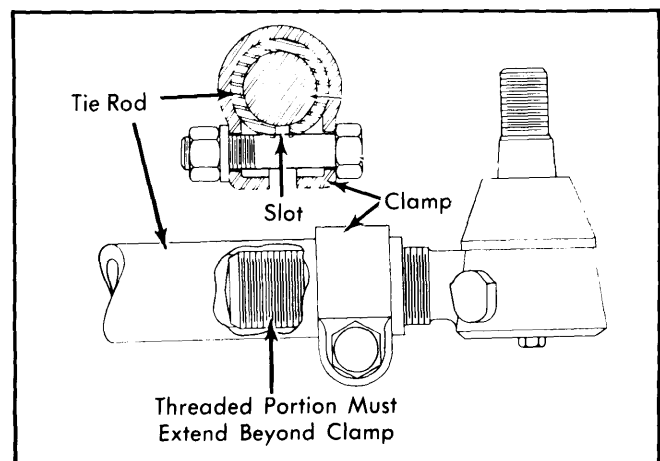

Fig. 2 Positioning Clamps on Tie Rod
**Tie Rod End Replacement** — Loosen tie rod end clamp bolts. Unscrew tie rod end from tie rod. To install, reverse removal procedure. Make sure tie rod end is threaded into tie rod sufficiently so that clamping action will be directly over threads. Position clamp on tie rod as shown in illustration (see Fig. 2).